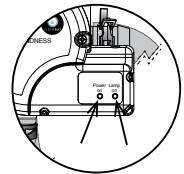

Figure 14.5g
12. **System Test 1:** Assure there is no water dripping from the seal compression nut (9). If water is visible, STOP and tighten the compression nut (9) using a pair of channel lock pliers to a maximum of 1/4 turn. If that does not fix the leak, then repeat quartz tube maintenance process from step 1 through step 11. Make sure there is no water leaking before proceeding to step 13.
14. Reconnect the UV bulb socket (6) to the power cord socket (4) make sure you use the latex glove provided when handling the UV bulb.
15. Slide the new UV bulb (7) back inside the quartz tube.
16. Reinstall the black bulb boot (5) back over the quartz seal compression nut (9).
17. Reinstall the enclosure cover (2) and secure with the screws.
19. Once power is activated you can check the ballast, Figure 14.5g, to see if the CLEARRAY System is functioning. The power on (red) light indicates that the CLEARRAY System is being provided power and should always be on. The lamp on (green) light indicates that UV bulb is activated.